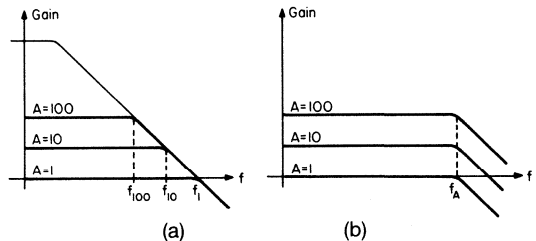

Fig. 7: Comparing the gain-bandwidth relationship of conventional op amps and current-feedback amplifiers.
Comparing with Eqs. (6) and (7), we note that the closed-loop gain expressions are formally identical. However, the bandwidth now depends only on R_2 rather than on the closed-loop gain $1 + R_2/R_1$. Consequently, we can use R_2 to select the bandwidth, and R_1 to select the gain. The ability to control gain independently of bandwidth constitutes a major advantage of CF amps over conventional op amps, especially in automatic gain control applications. This important difference is highlighted in Fig. 7.